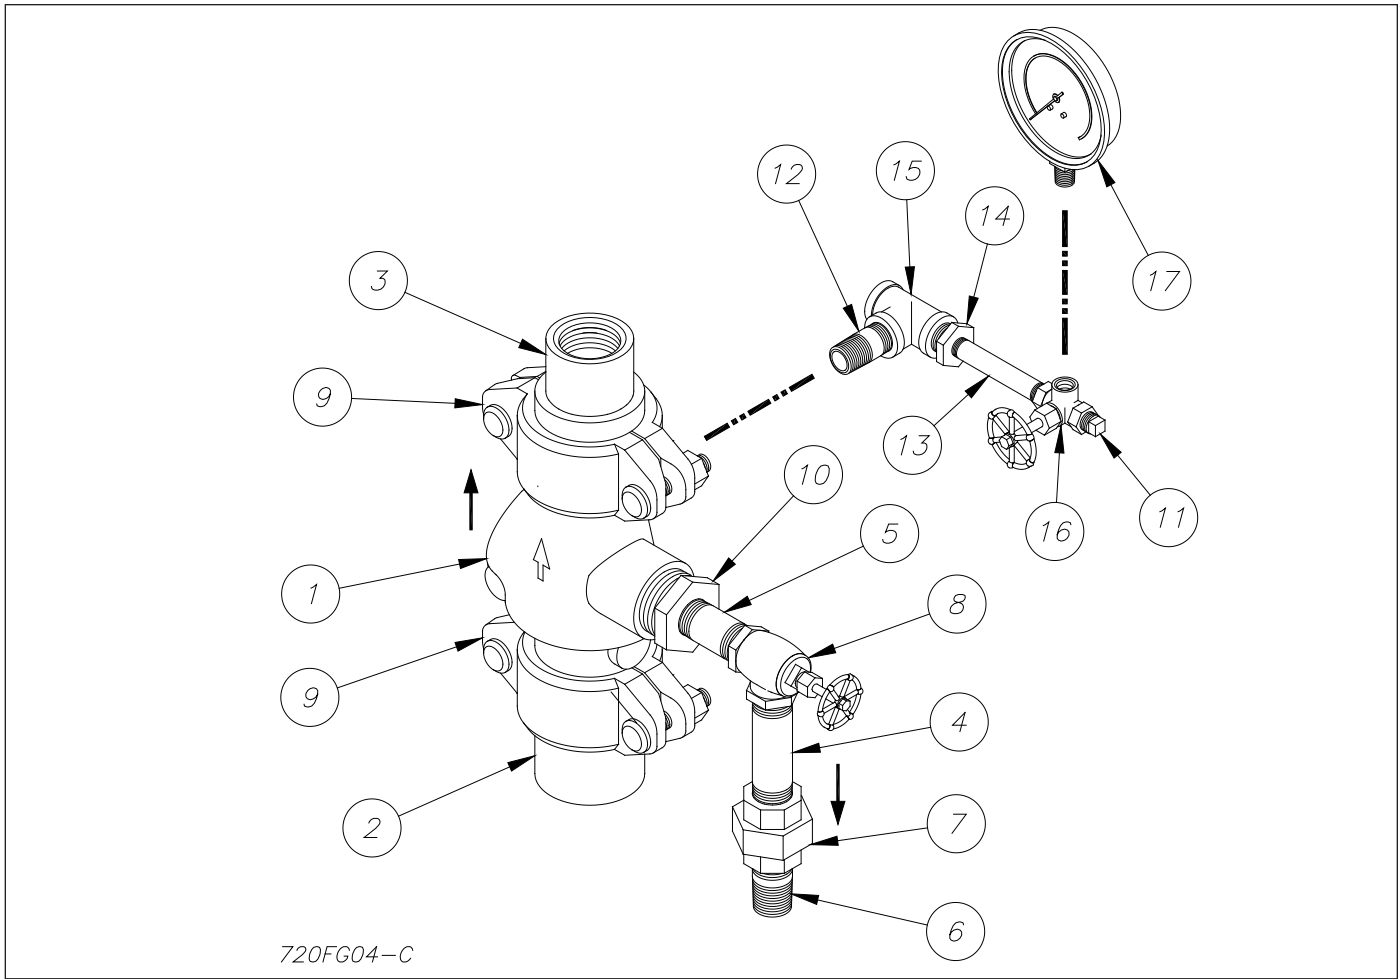

Figure 4 - Preaction Trim Kit
A preaction trim kit is available to provide a bypass drain line and to attach the air or nitrogen supply required to supervise the preaction system. This kit includes a UL Listed Reliable Model G Right Check™ Valve supplied with rigid grooved pipe couplings, as illustrated in Figure 4. To produce a Double Interlock preaction system, the switch/gauge trim kit illustrated in Figure 5 must be added.
2. The Preaction Trim Kit (P/N 6501200112), illustrated in Figure 4, consists of items 1 through 17. The assembly has a convenient arrangement for draining the sprinkler system through the Model H Riser Assembly drain line.